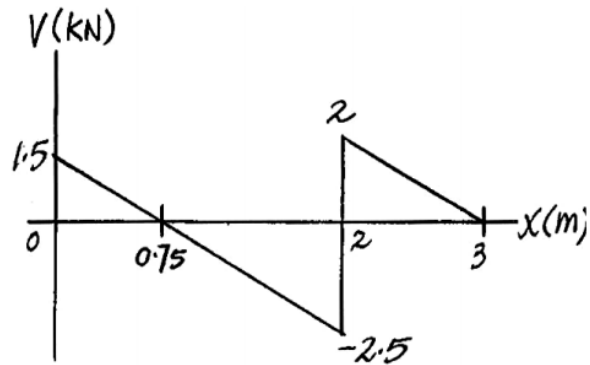

Figure 20
**Shear and Moment Diagram:** The vertical component of  $F_{BC}$  is  $(F_{BC})_y = 7.5\left(\frac{3}{5}\right) = 4.5 \text{ kN}$ . The shear and moment diagrams are shown in Figs. 20 and 21.